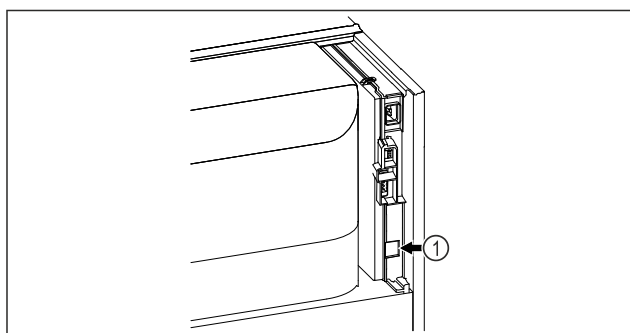

Fig. 47
- SmartModule Fig. 47 (1) is in use.